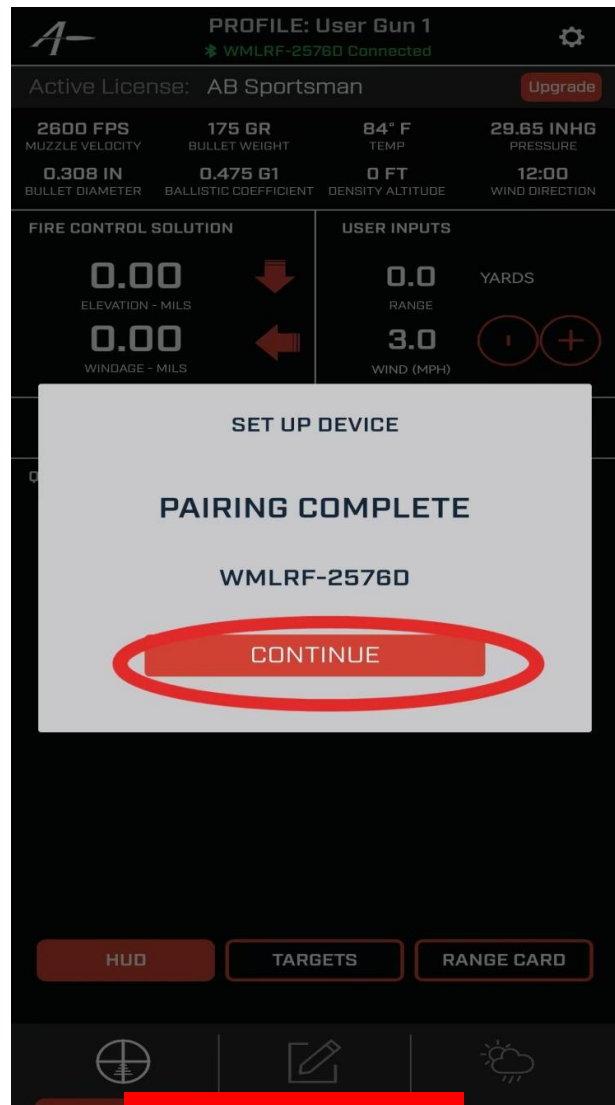
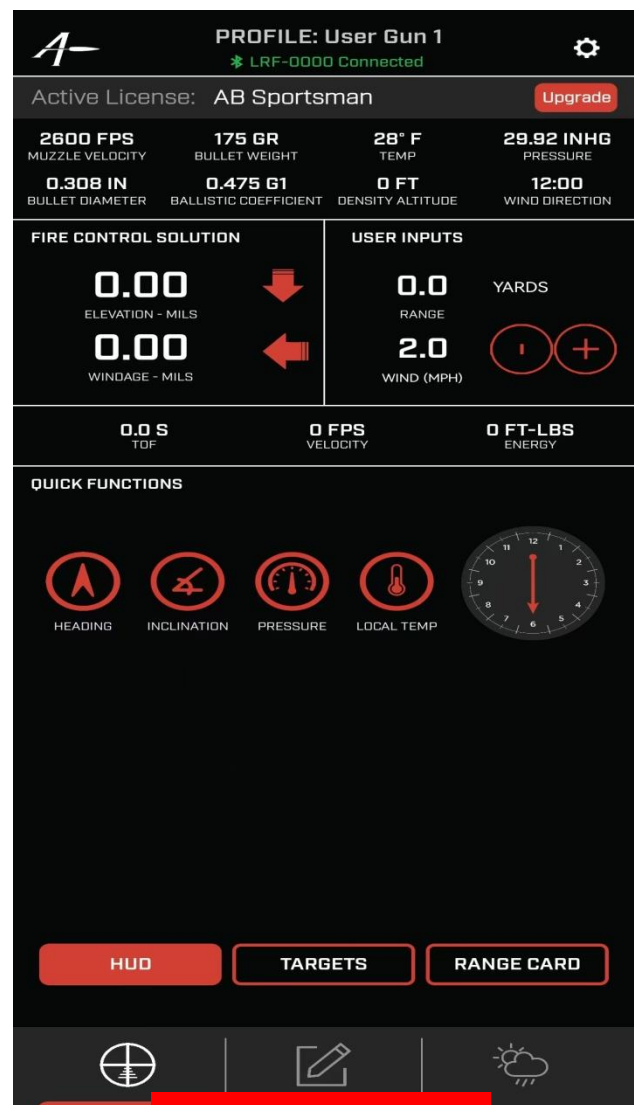

Figure 9
Figure 10
- 8) Click "OK" to enter the interface as shown in Figure 9, and click "CONTINUE" to enter the interface as shown in Figure 10, indicating that the connection is successful.